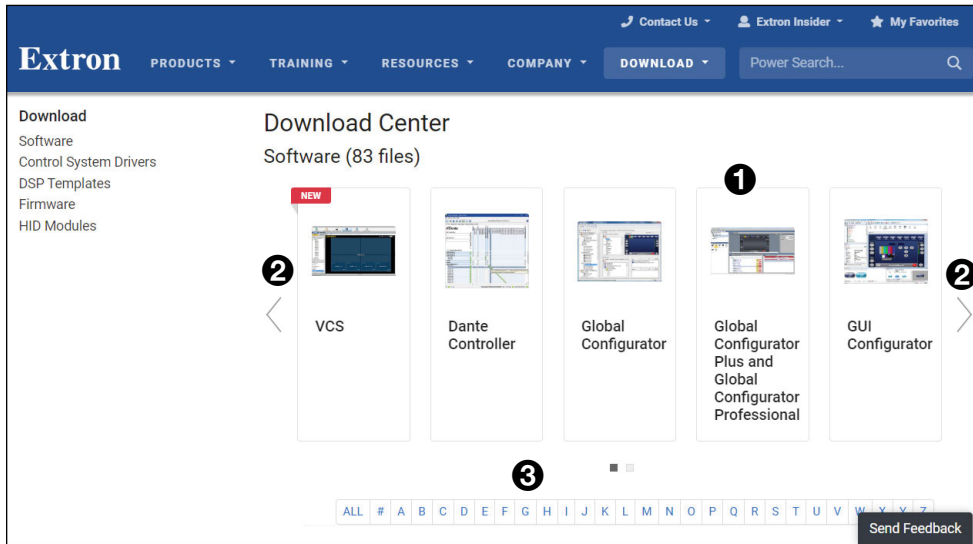

Figure 36. Software Download Center
- You may see the product immediately, for example Global Configurator Plus and Professional (see figure 36, ①). Use the left and right arrows (②) to scroll through all the highlighted products. If the software is not shown, click the initial letter of the product in the alphabet menu (③).